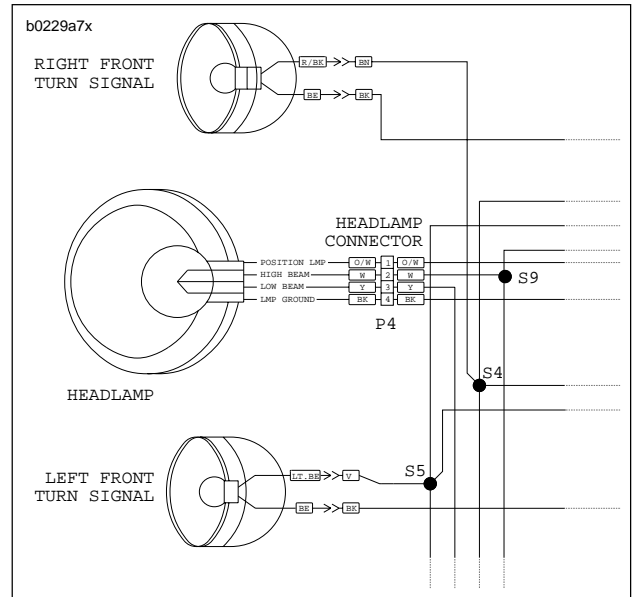

Figure 7-42. Front Turn Signal Connections
1. See Figure 7-42. Disconnect bullet connectors on turn signal wires.
2. Attach bullet connectors on turn signal wires as shown in Figure 7-42.